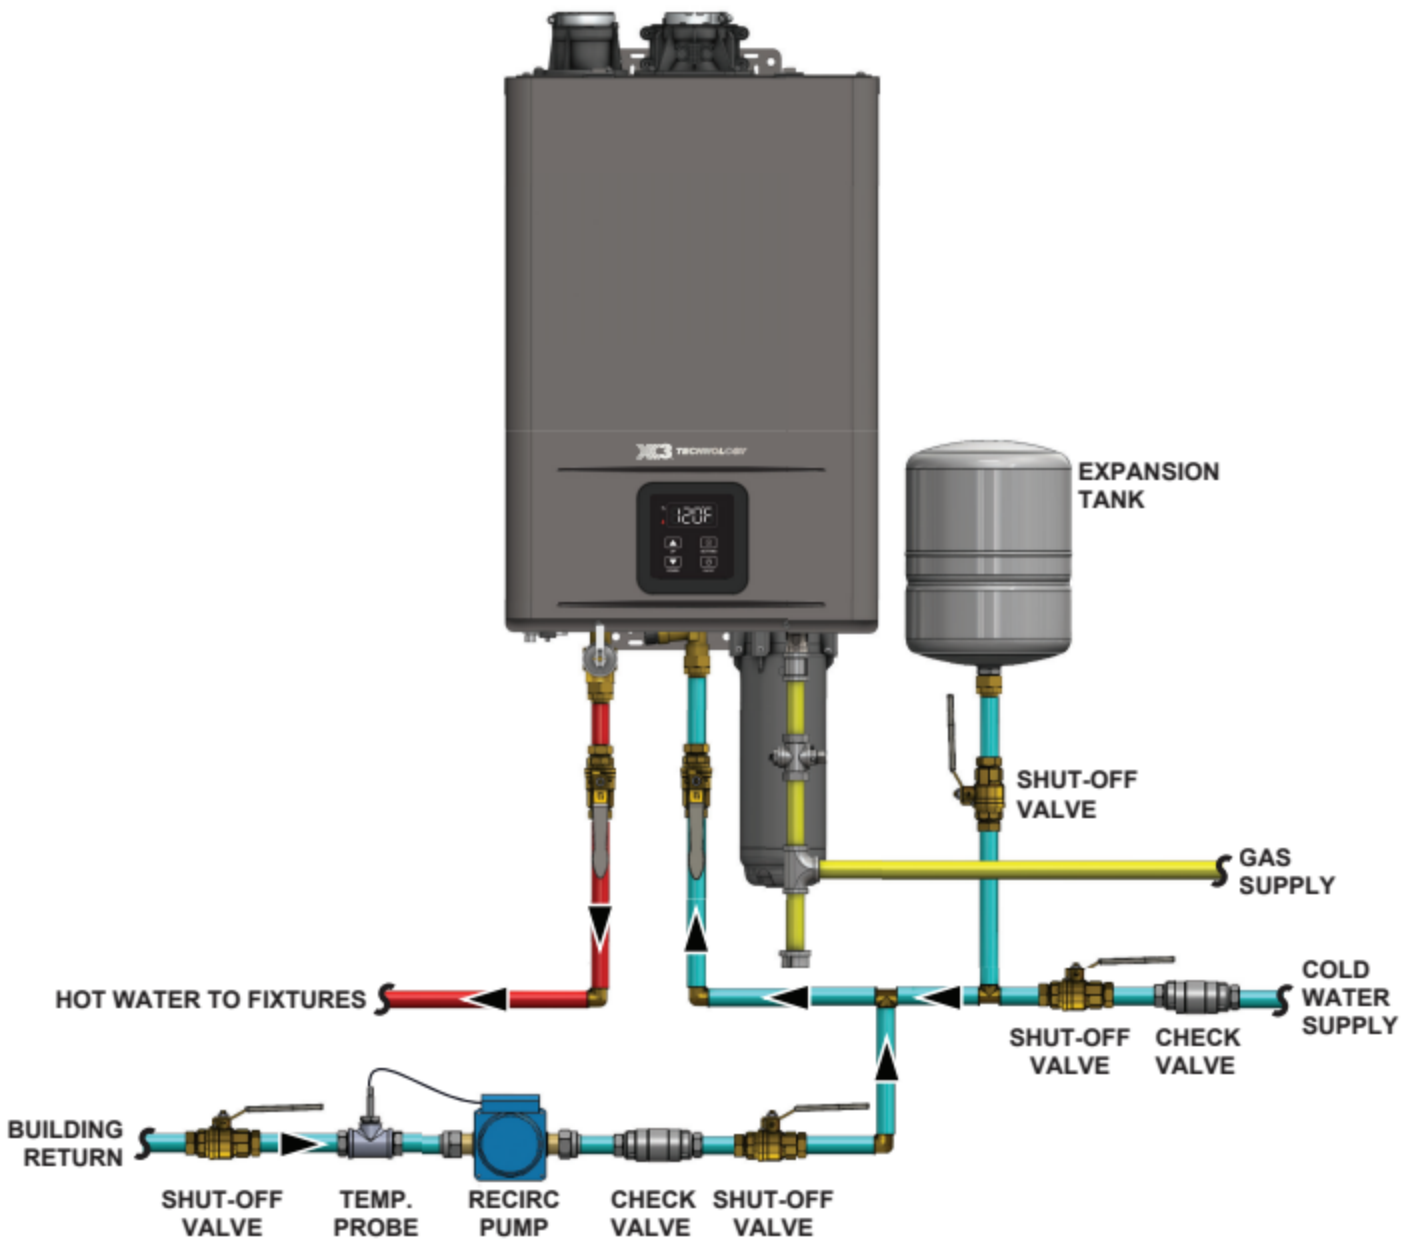

Figure 39 - Recommended Recirculation Diagram
**NOTICE:** Figure 39 on page 41 provides the manufacturer's suggested piping layout for recirculation. The installer must properly install the system per manufacturer's instructions and local codes. Refer to the water heater manufacturer's website for additional layouts.